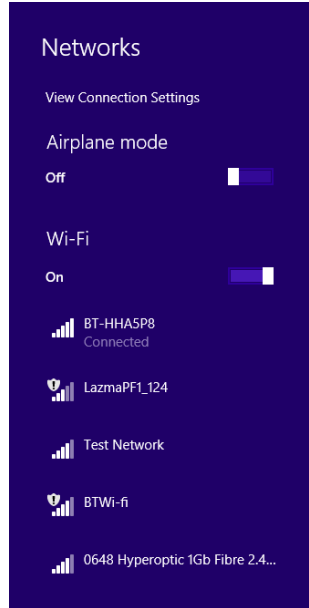

FIGURE 6 DEVICE NETWORK CONNECTION
2. Open the available wi-fi network list (found in the bottom right system tray of Windows operating systems) and select the "LazmaPF1_#", where # corresponds to the device number you are connecting. Figure 6 shows an example with device #124.